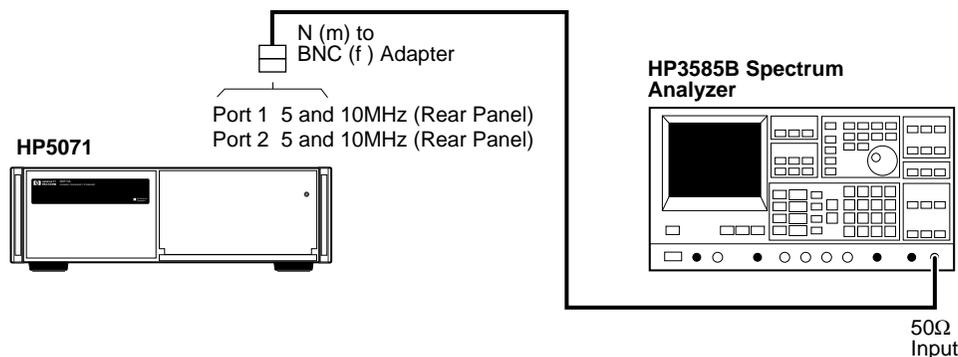

Figure A-4. Non-Harmonic Distortion Test Setup
- 1** Connect the 5071A Port 1 to the 3585B analyzer as shown in Figure A-4. Set the 3585B for 50 Ω input impedance.